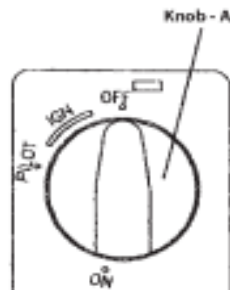

Figure 4
- Turn knob-A (Figure 4) slightly left towards the 'IGN' position until reaching stop, press down and hold for five seconds (only pilot gas flows).